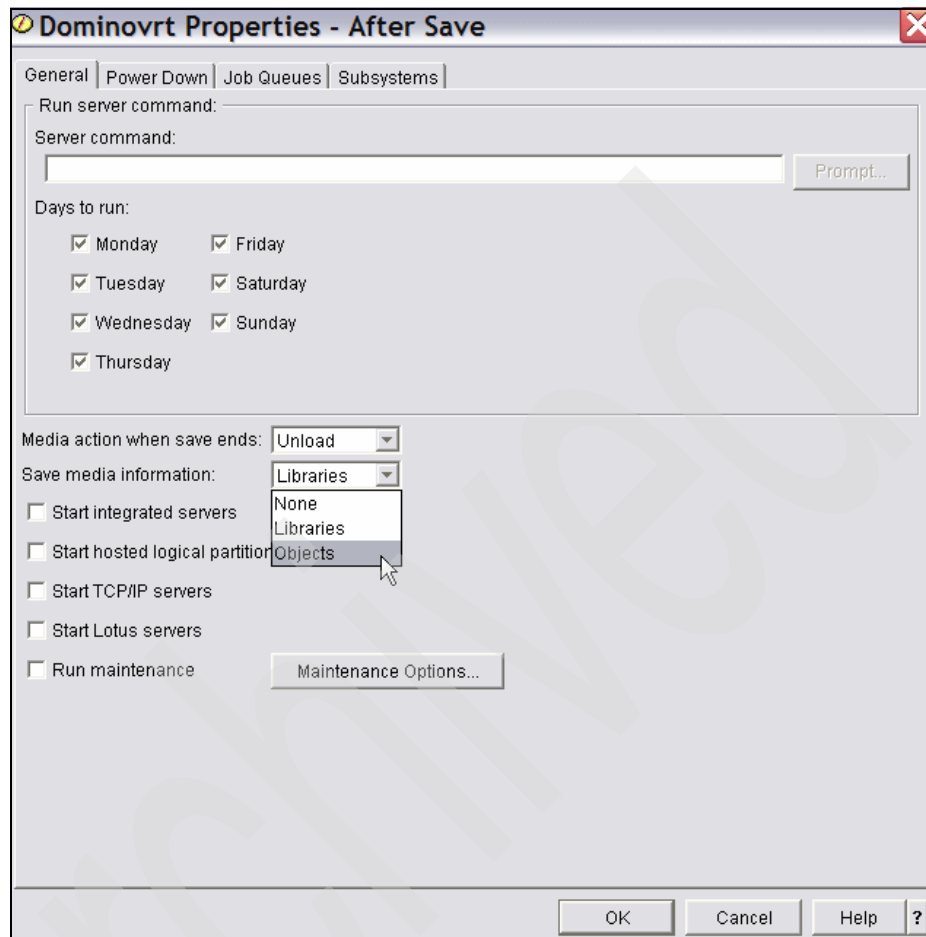

Figure 5-63 BRMS move policy change, After Save - General tab
11. Then, in the window shown in Figure 5-63 on page 249, deselect **Start integrated servers**, scroll down **Save media information** and select **Objects**, and click **OK**.